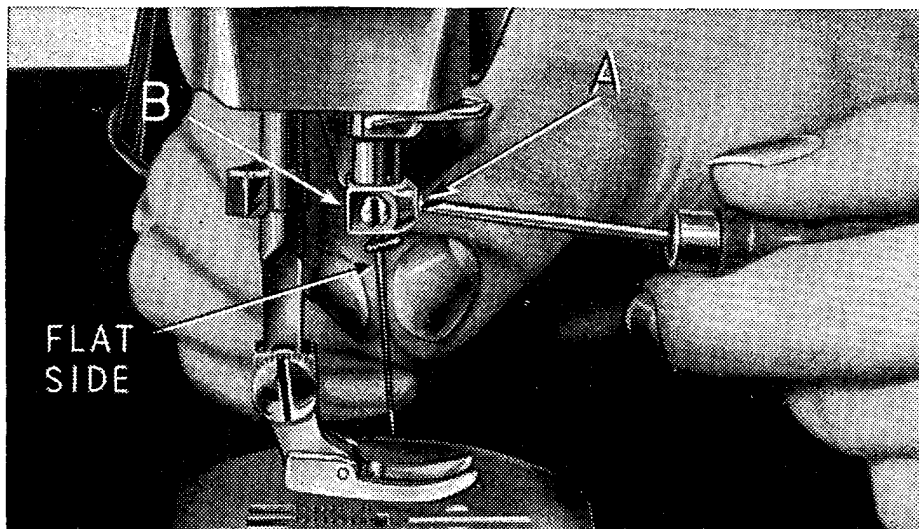

Fig. 9 To Set the Needle
To Set the Needle (Fig. 9)
Turn the balance wheel over toward you, until the needle bar is at its highest position. Loosen screw (A, Fig. 9) and insert the needle, as far up as it will go, into the clamp (B, Fig. 9) with its flat side toward the rear, and long groove of the needle towards you. Then tighten screw (A).